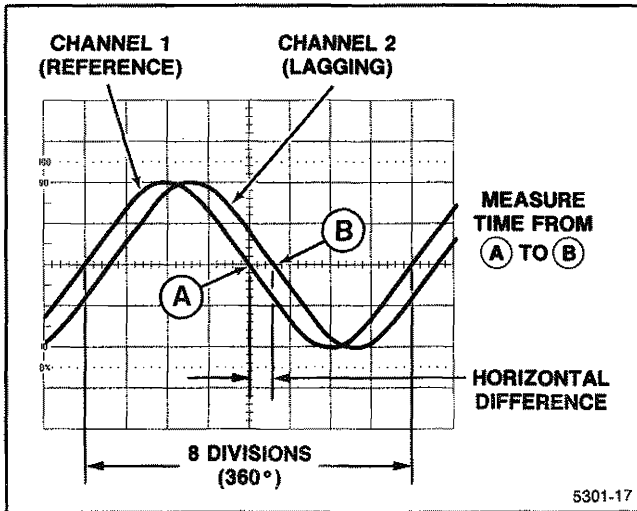
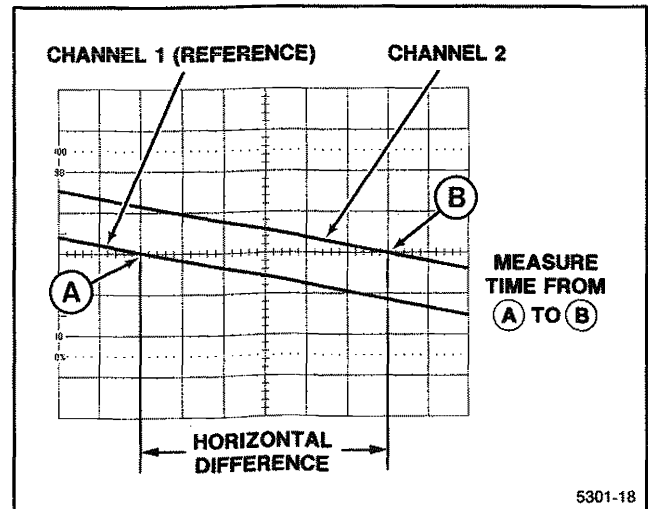

Figure 6-9. Phase difference.
Figure 6-10. High-resolution phase difference.
9. Position the displays and adjust the SEC/DIV Variable control so that one reference-signal cycle occupies exactly eight horizontal graticule divisions at the 50% rise-time points (see Figure 6-9). Each division of the graticule now represents 45° of the cycle ($360^\circ \div 8$ divisions), and the horizontal graticule calibration can be stated as 45° per division.
EXAMPLE: The horizontal difference is 0.6 division with a graticule calibration of 45° per division as shown in Figure 6-9.
EXAMPLE: If the sweep speed were increased 10 times with the magnifier (X10 Magnifier out), the magnified horizontal graticule calibration would be $45^\circ/\text{division}$ divided by 10 (or $4.5^\circ/\text{division}$). Figure 6-10 shows the same signals illustrated in Figure 6-9, but magnifying the displays results in a horizontal difference of 6 divisions between the two signals.